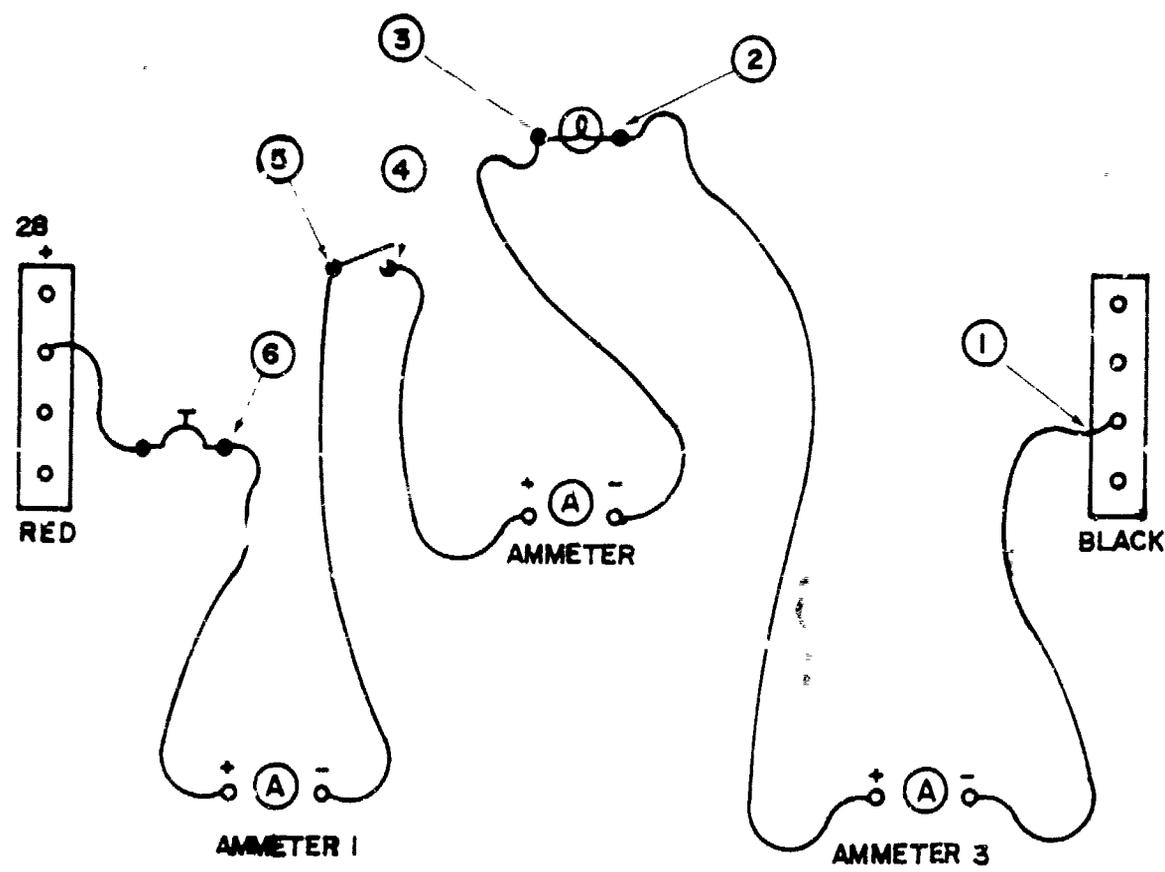

Figure 8.
- a. (1) 1-2 1.2 amps (Figure 8) ± 0.3 amps
3-4 1.2 amps (Figure 8) ± 0.3 amps
5-6 1.2 amps (Figure 8) ± 0.3 amps
TOTAL 1.2 amps (Figure 8) ± 0.3 amps